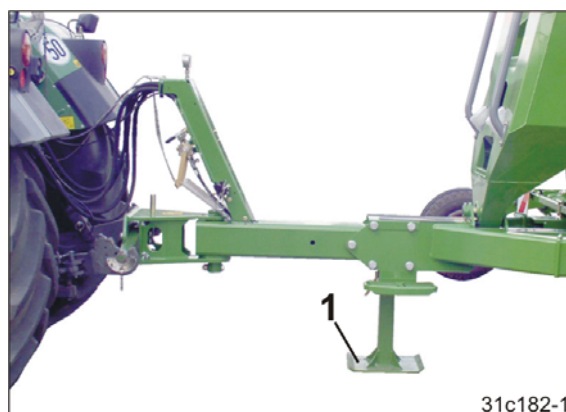

Fig. 261
Before working on the implement, place the implement connected to the tractor on the sustainer (Fig. 261/1) to prevent unintentional lowering of the tractor's lower link.
1. To clean, always place the implement connected to the tractor on the stand (Fig. 261/1).